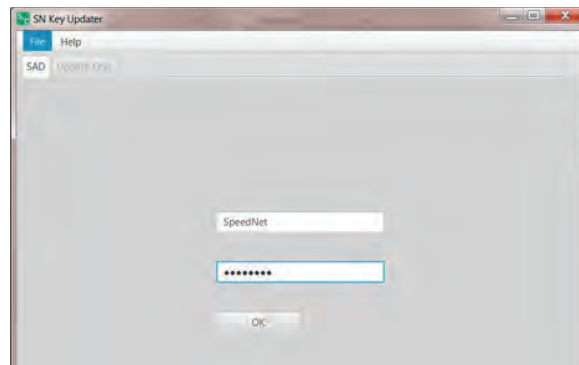

Figure 52. SAD dialog box
STEP 31. Open a valid SAD file. Once you choose an SAD file, enter the username and password for that SAD file, and click the **OK** button. See Figure 52.